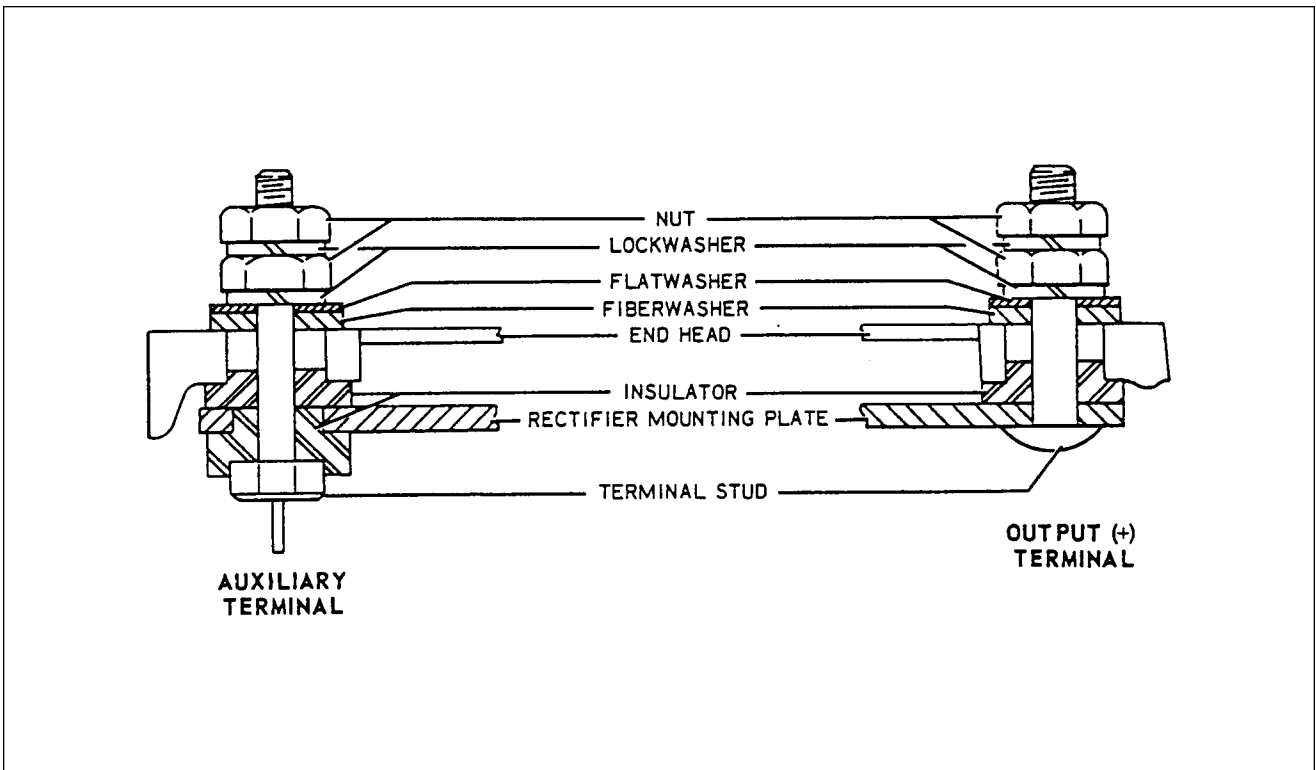

Figure 24-37. Terminal Assembly (Prestolite)
3. Reassemble rectifier mounting plate studs and insulators. Make sure they are in correct order. (Refer to figure 24-37.)